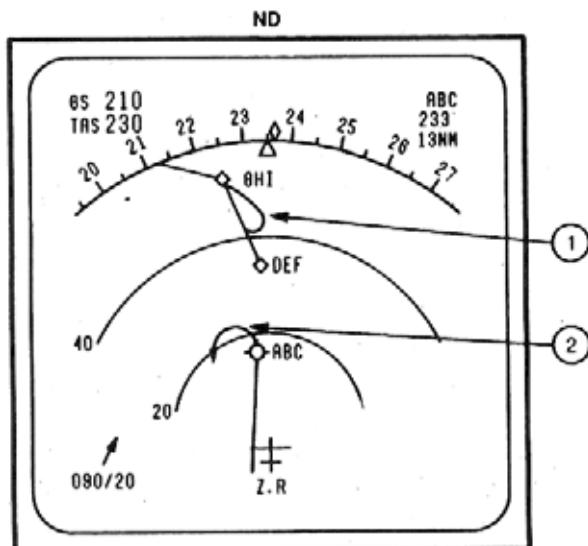

Figure 2-136
Otherwise the PROC T is depicted on the ND as a curved arrow symbol, indicating the direction of turn of the PROC T only. Figure 2-136 displays an example of each for demonstration purposes - (1) a full PROC T pattern, (2) a curved arrow symbol.